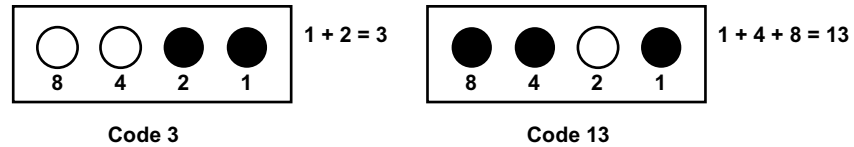

Figure 8-21 Honda engine Code Type 04
- Type 04, see Figure 8-21 and Table 8-5 on page 73